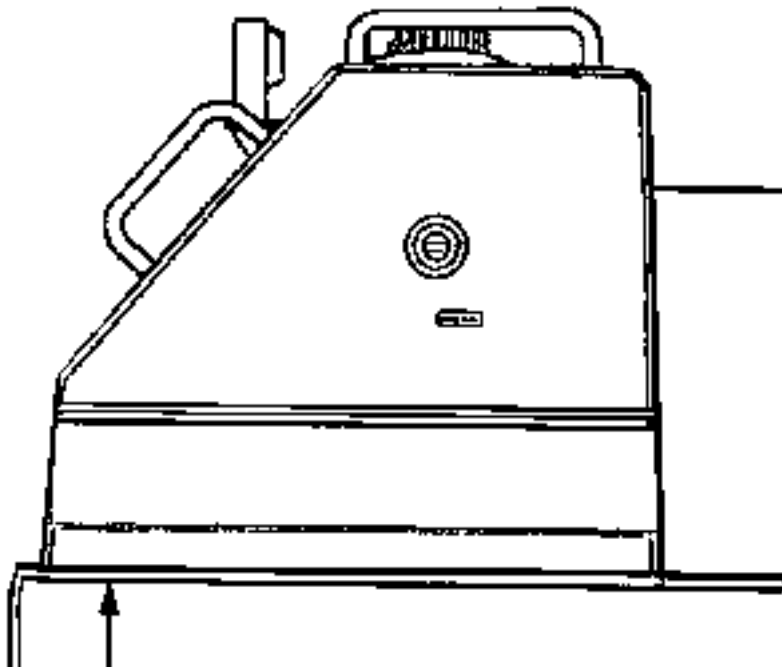

Fig. 5.21. Hydraulic Reservoir Drain Plug Location
4. Drain the reservoir into a suitable container by removing the filler plug and the drain plug (Fig. 5.21). If the reservoir is equipped with a drain valve (Fig. 5.21.A), remove **safety plug** (1) of the drain valve and thread hose (2) into the plug opening and drain the oil into a suitable container. When threaded in, drain hose (2) opens the drain valve and allows the oil to flow out.